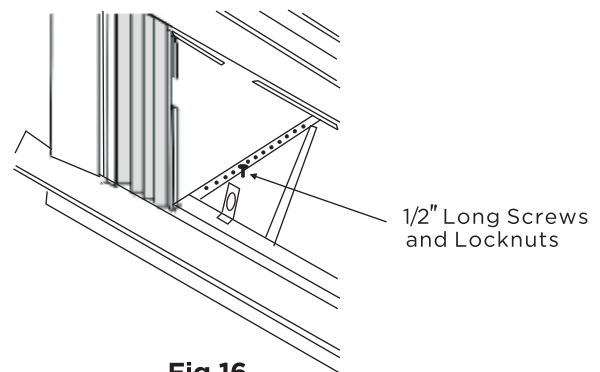

Fig.16
- Install support brackets (with sill angle brackets attached) to correct hole in bottom of cabinet as shown in Fig.16.